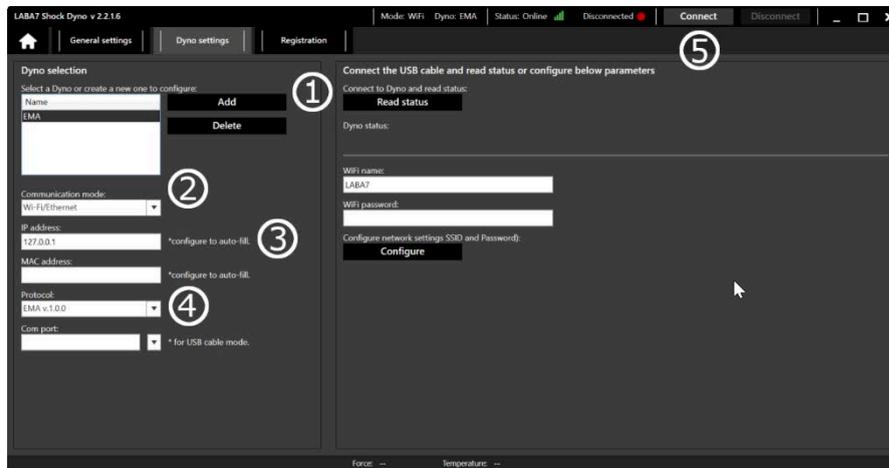

Figure 14
4. Add a new Dyno model by clicking Add button (Figure 14 – Step 1).
7. Select Wi-Fi/Ethernet communication mode. (Figure 14 – Step 2)
8. Enter the IP address of the device. The IP address is shown on the screen of the power supply. (Figure 14 – Step 3)
9. Select protocol: EMA v.1.0.0 (Figure 14 – Step 4).
10. Press **Connect** (Figure 14 – Step 5). status indicates, that the connection is successful.